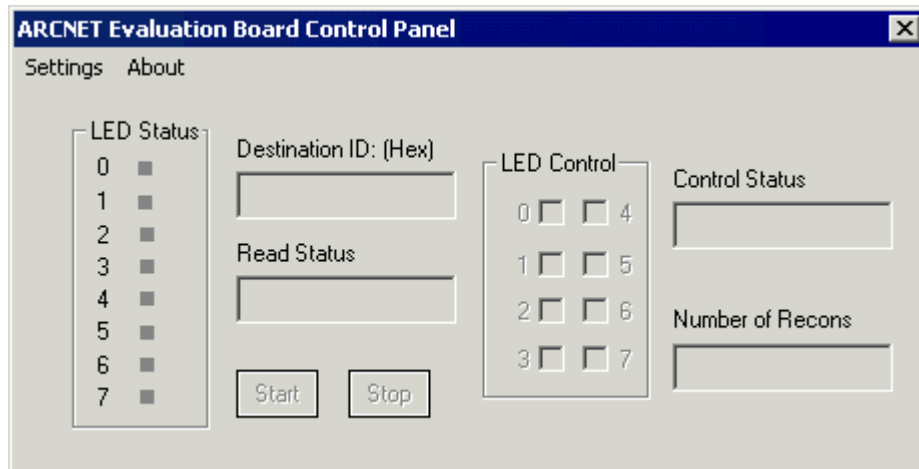

Figure 4 – ARC-EVB Control Panel – Inactive
The ARCNET Control Panel is illustrated in **Figure 4**. The server application causes the current ARC-EVB input data to be displayed in the LED Status section of the panel and can change the ARC-EVB output data in the LED control section of the panel. The 8 output LEDs on the ARC-EVB are used to display its output state.
- Launching the application will display the **Control Panel** in **Figure 4**. Until the **Settings Panel** options have been entered, the **Control Panel** features will remain inactive.